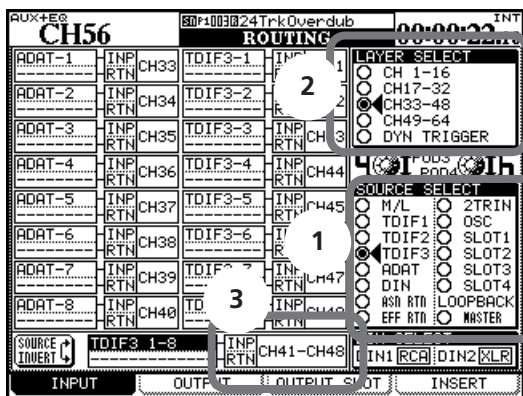

Figure 4.1: Routing inputs
The input sources are as follows, as listed at the lower right of the screen (1 in Figure 4.1, *Routing inputs*):
- 2 Select the destination layer of these input sources by using the **POD 3** encoder (2 in Figure 4.1, *Routing inputs*). Choose between:
To set up eight input/destinations at one time, move the cursor down to the batch setup area at the bottom center of the screen (3 in Figure 4.1, *Routing inputs*). The destination is on the right and the source is on the left.